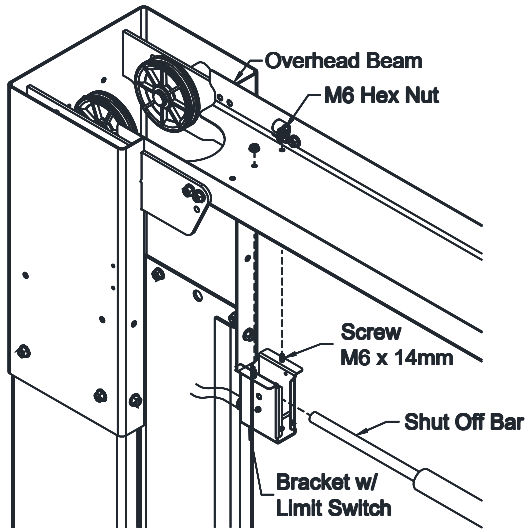

Fig. 12a – Overhead Limit Switch Power Side
- 28) Install overhead limit switch to the overhead beam using the rear set of holes on the power side of the lift, **Fig. 12a**.